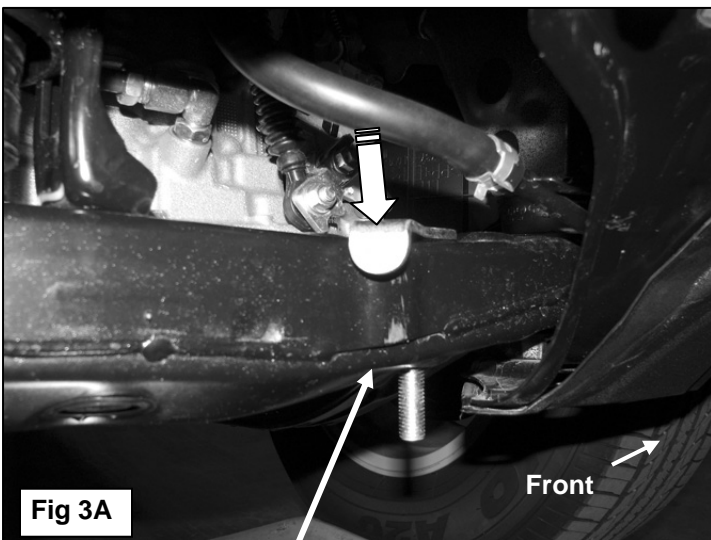
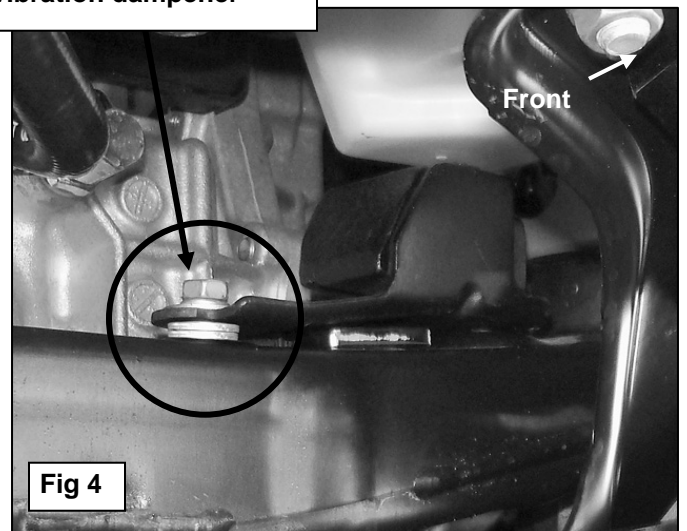

Fig 3A
Fig 4
3. Locate the driver side factory vibration dampener on top of the cross member, (Figure 4). The vibration dampener covers a mounting location for the driver side Support Bracket. Temporarily remove the dampener from the top of crossmember. **IMPORTANT:** Pay close attention to how the dampener is mounted to the crossmember as it will be reinstalled.
- a. **Driver Side Support Bracket Installation:** Insert (1) 12mm x 90mm Bolt Plate down through the crossmember from the top, (Figures 3A & 3B). Re-install the vibration dampener over the Bolt Plate using the factory hardware. **NOTE:** Use the included 8mm Flat Washers on the factory hex bolts for spacers between the dampener and the crossmember as required for proper Bolt Plate clearance, (Figure 4). Rotate the lock tab on the Bolt Plate for proper fit between the crossmember and dampener. Select the driver side Support Bracket. Attach the end with the bent tab to the Bolt Plate with the included (1) 12mm x 32mm STD Flat Washer and (1) 12mm Nylon Lock Nut, (Figure 5). Do not tighten hardware at this time.